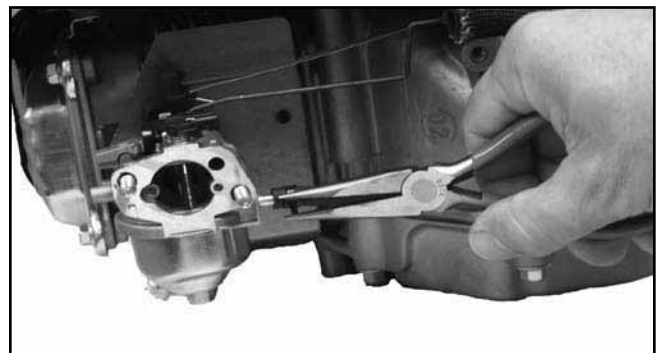

Figure 8-17. Disconnecting Fuel Line.
1. Squeeze the hose clamp and slide it and the fuel hose off the carburetor. See Figure 8-17.